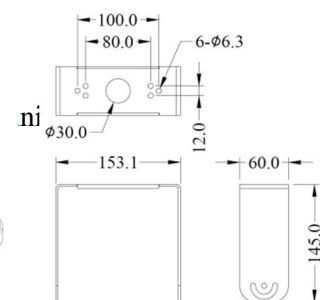

Figure 5
- ☞ Secure the wall/pendant mounting bracket to the structure by using six fasteners (not provided). (Figure 5)